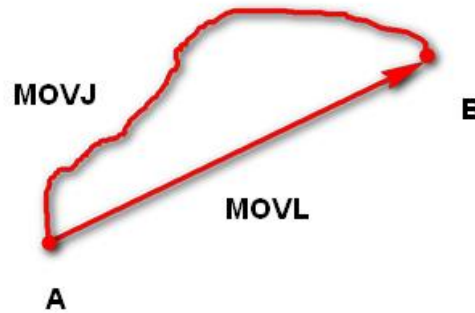

Figure 2.7 MOVL/MOVJ mode
- **MOVJ**: Joint movement. From point A to point B, each joint will run from initial angle to its target angle, regardless of the trajectory, as shown in Figure 2.7.
- **MOVL**: Rectilinear movement. The joints will perform a straight line trajectory from point A to point B, as shown in Figure 2.7.